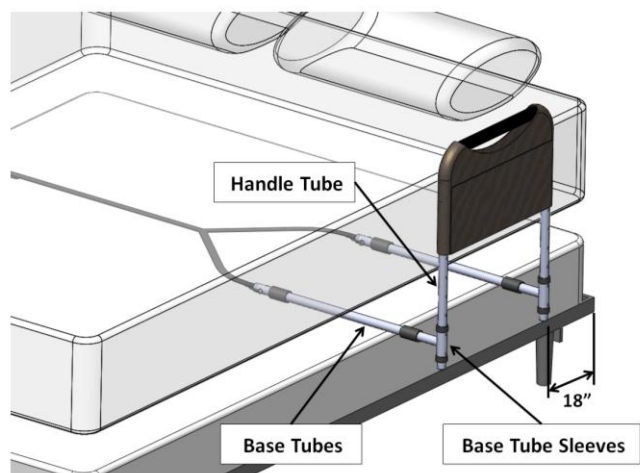

FIGURE 3
3. Slide the Handle Tube through the Base Tube Sleeves as shown in Figure 3.